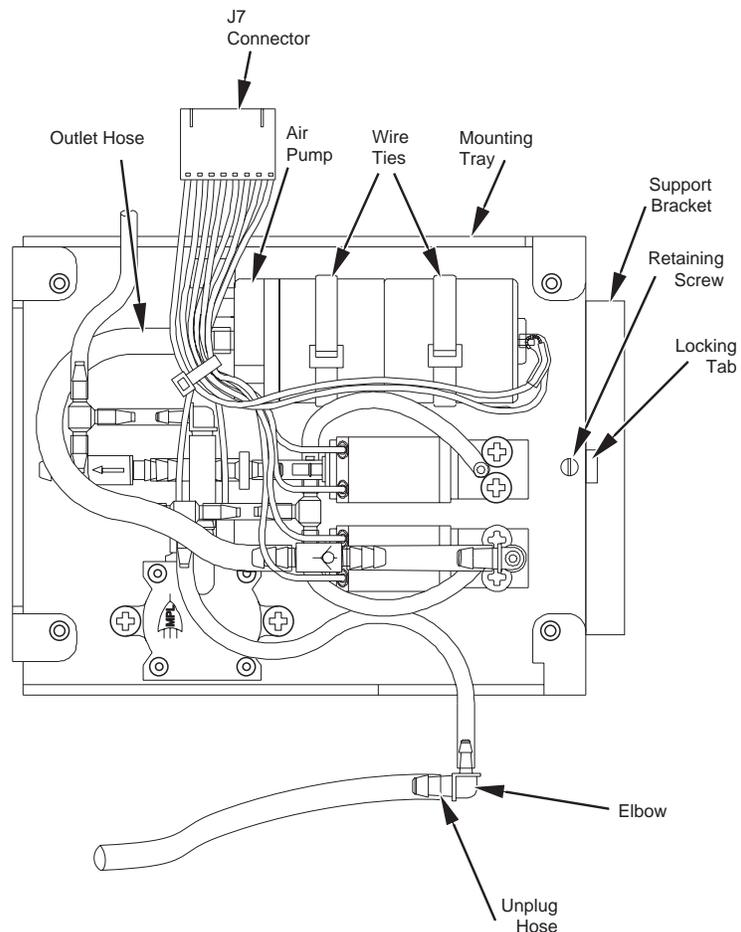

Figure 7-10: Air Pump Installation
10. The two wires that supply the air pump are plugged into the J7 connector. If the pump is being replaced, the two wires must be removed from this connector (see Figure 7-10). To free the pump wires, first remove the wire tie from the harness that contains them.